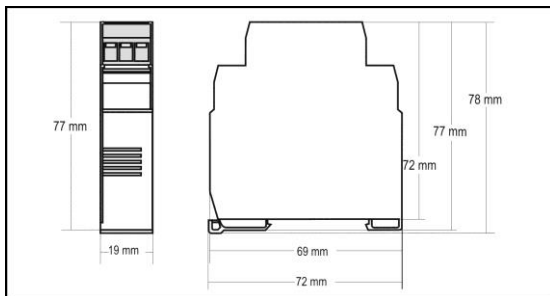

Figure 04 – Transmitter dimensions
The transmitter is intended for DIN rail mounting. Its drawing is preseted in **Figure 04**.
- Housing:** ABS plastic. Dimensions: Refer to **Figure 04**.